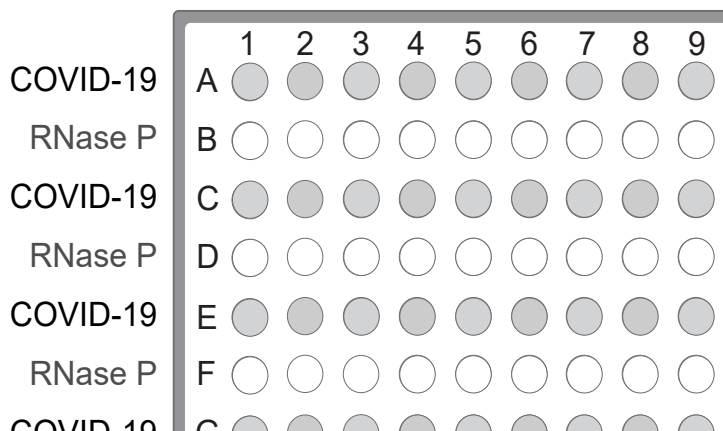

Figure 7 Assays in alternating plate rows
- a. Starting with row A, pipet 15.0 µL per well of the COVID-19 Reaction Mix into every other row of a MicroAmp™ Optical 384-Well Reaction Plate with Barcode. See Figure 7 on page 66.